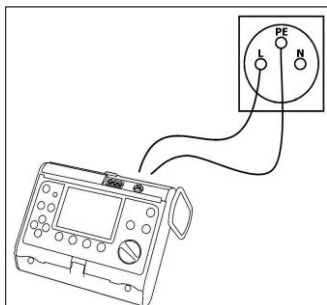

Fig. 19. Connection of the meter
- connect the meter with cables to the network socket in the board in accordance with Figure 19,